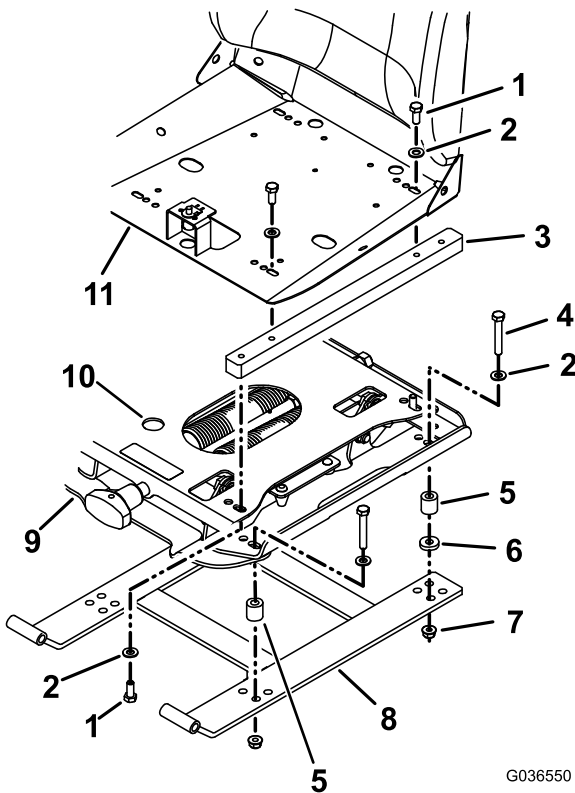
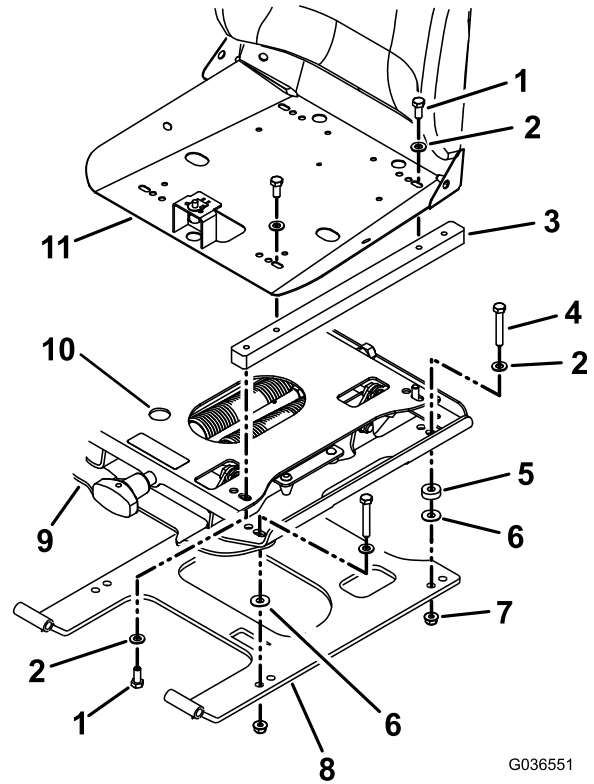

Figure 1
Figure 2
- A. Place a long spacer (0.785 inch) above the outside, front hole in the front set of holes on each side of the seat frame (Figure 1).
- B. Place a long spacer (0.785 inch) and a short spacer (0.187 inch) above the outside, front hole in the rear set of holes on each side of the frame (Figure 1).
- C. Place the suspension assembly onto the spacers with the springs facing upward and the adjustment knob facing forward (Figure 1).
- D. Secure the suspension assembly to the seat frame with 4 hex-head screws (5/16 x 2 inches), 4 washers (5/16 inch), and 4 locknuts (5/16 inch) as shown in Figure 1.
- A. Place a medium spacer (0.25 inch) above the front hole in the front set of holes on each side of the seat frame (Figure 2).
- B. Place a medium spacer (0.25 inch) and a short spacer (0.187 inch) above the front hole in the rear set of holes on each side of the seat frame (Figure 2).
- C. Place the suspension assembly onto the spacers with the springs facing upward and the adjustment knob facing forward (Figure 2).
- D. Secure the suspension assembly to the seat frame with 4 hex-head screws (5/16 x 1-1/2 inches), 4 washers (5/16 inch), and 4 locknuts (5/16 inch) as shown in Figure 2.
9. Install the adapter bars onto the suspension assembly, using the hex-head screws (5/16 x 3/4 inch) and washers (5/16 inch) provided (Figure 1 or Figure 2).
10. Install the seat onto the adapter bars with the hex-head screws (5/16 x 3/4 inch) and washers (5/16 inch) provided (Figure 1 or Figure 2).
Note: Carefully route the harness from the seat cushion (if equipped) as shown in Figure 1 or Figure 2.
- A. Route the wiring harness through the suspension assembly and through the hole (Figure 1 or Figure 2).